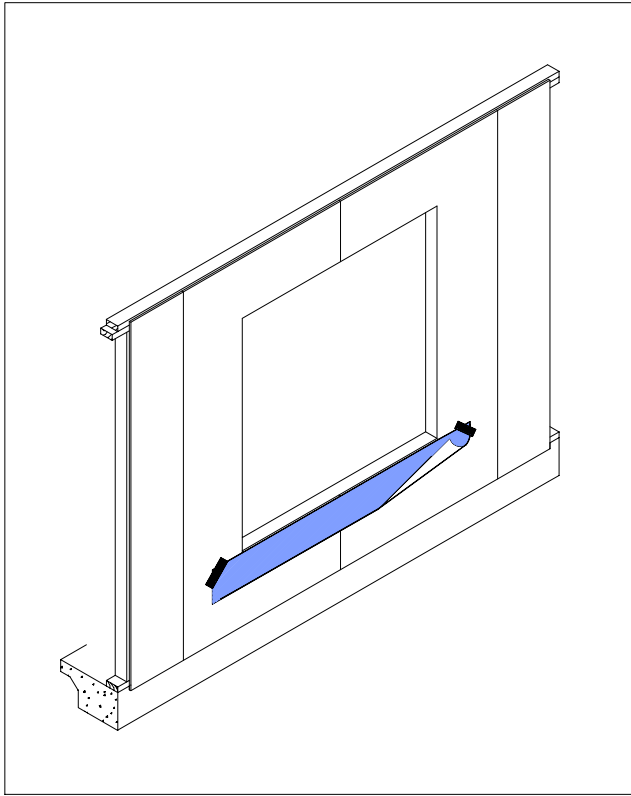

Figure B.4.1
4. Apply the first strip of flashing material horizontally, immediately below the sill. It must be cut sufficiently long enough to extend past each side of the window; so that it projects even with the vertical jamb flashing that will be applied later. This means that an extension of 9" is required on both ends of the sill flashing if 9" flashing is used. The flashing must be fastened at the top edge of the flashing so that the nailing fin covers the fasteners when the window is installed. If the weather resistant barrier has not already been installed previous to the window, the installer should not use fasteners on the bottom edge or the 9" ends extending beyond the sill of the sill flashing so that a weather resistant barrier may be properly installed in weatherboard fashion. The bottom and the ends may be taped down to keep wind and weather from damaging them until the weather resistant barrier is installed. **See Figure B.4.1**